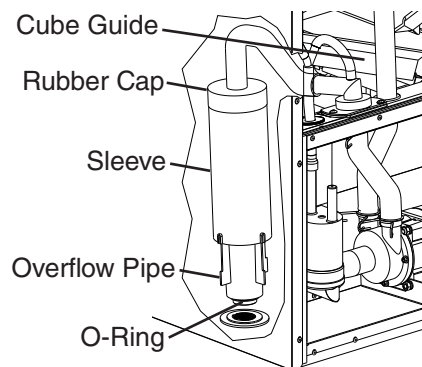

Fig. 27
2c)(2) Remove the rubber cap and sleeve covering the overflow pipe. See Fig. 27.